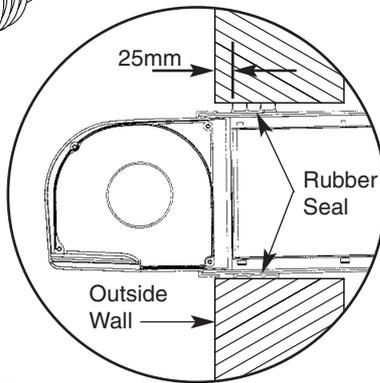

Fig. 27
5. Measure the total wall thickness. The outer of the two rubber seals is adjustable and should be set in a position that is 25mm in from the outer face of the external wall (Fig. 27).